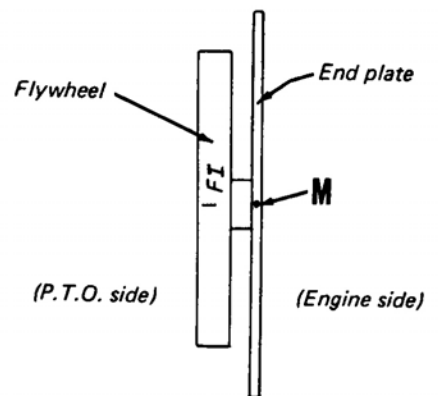

Fig. 27—View of "FI" injection timing mark on flywheel and timing mark (M) on end plate. Refer to text.
37. INJECTION PUMP TIMING. Start of injection should occur at 25° BTDC, or when "FI" flywheel timing mark aligns with end plate timing mark as shown in Fig. 27.